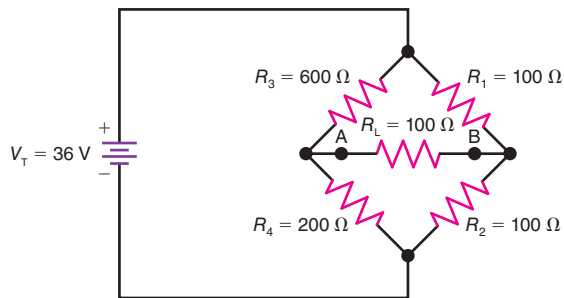

Figure 8-23
8.16 In Fig. 8-23, draw the Thevenin equivalent circuit with respect to terminals A and B (mentally remove R_L).
8.17 Using the Thevenin equivalent circuit for Fig. 8-23, calculate the values for I_L and V_L .